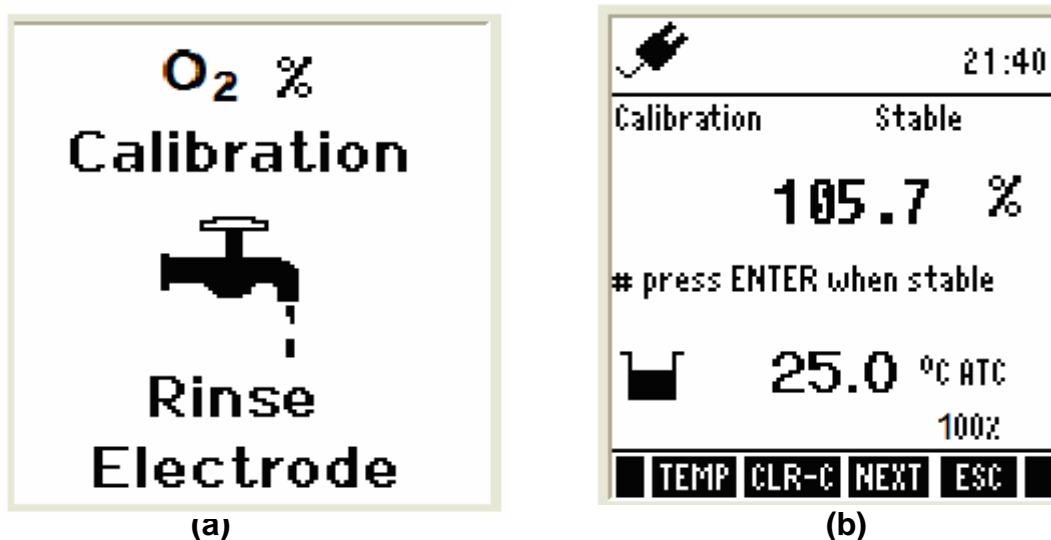

Figure 58: Saturation Calibration Screens
5. The meter then shows saturation calibration screen [Figure 58-(b)]. The primary display will show the current value of measurement. Wait for the reading to stabilize.